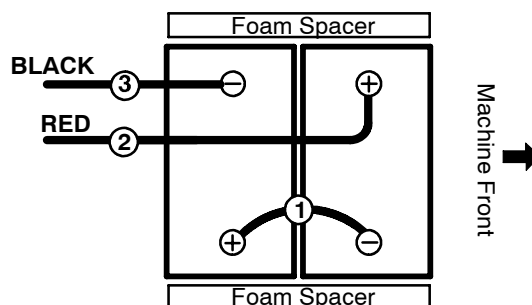

FIG. 2
- Carefully install the batteries into the battery compartment tray and arrange the battery posts as shown (Figure 2). Insert the two foam spacers along side the batteries as shown.
- Using the supplied battery post boots, connect the cables to the battery posts in numerical order as labeled (Figure 2), RED TO POSITIVE (+) & BLACK TO NEGATIVE (-).